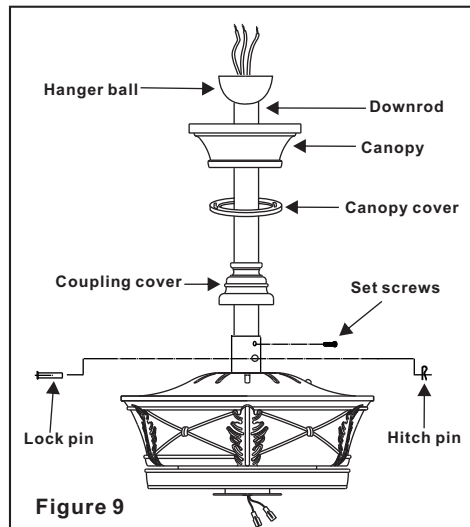

Figure 9
**Step 5.** Slip coupling cover, canopy cover and canopy onto downrod. (Fig.9) Carefully reinstall hanger ball onto rod being sure that cross pin is in correct position, set screws are tightened and wires are not twisted.